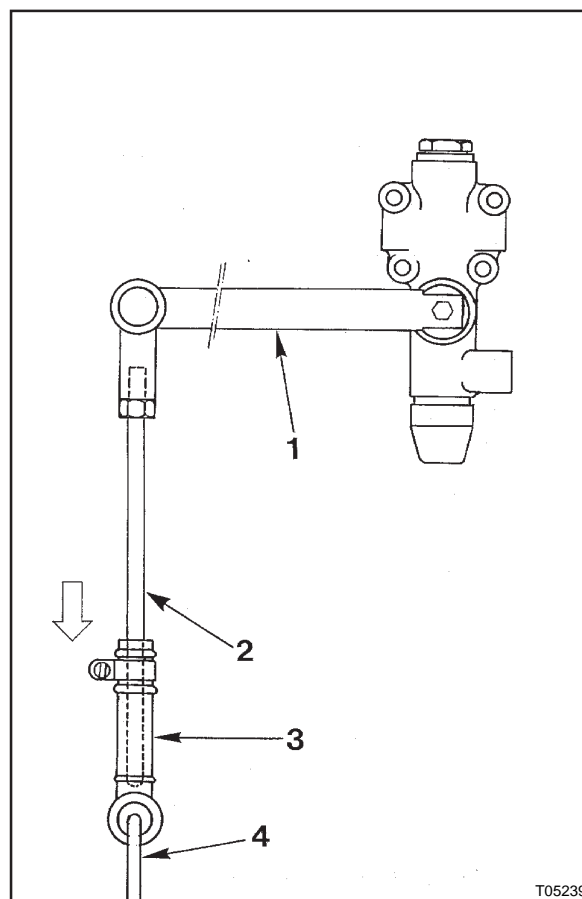

Figure 2 : Leveling valve link connection
5. Working underneath the coach, vent all remaining pressure from the rear suspension bellows by removing the rubber couplings of the tag axle leveling valves from their anchor brackets and pulling the retaining rods down (see Figure 2). Do not reconnect the rubber couplings until later in the procedure.